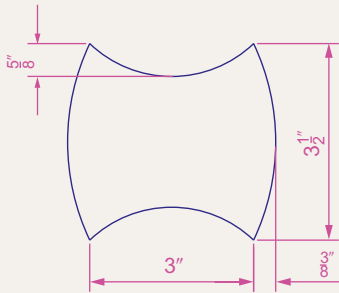
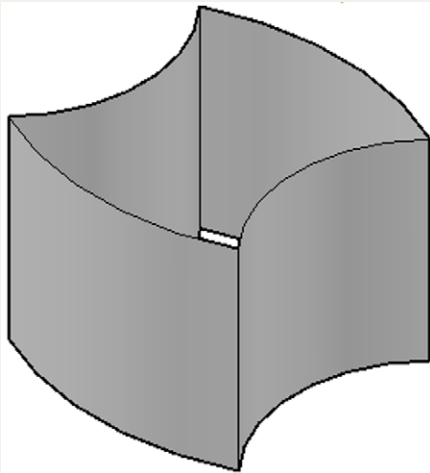

Fig. 14.41 Exercise 5 – outline to be extruded
Fig. 14.42 Exercise 5
Second example – 3D Surface (Fig. 14.41)
5. In the **Top** view on a layer colour **blue** construct the four polylines (Fig. 14.41). Call the **Extrude** tool and extrude the polylines to a height of **80** and place in the **Isometric** view. Then call **Visual Styles/Shades of Gray** shading (Fig. 14.42).